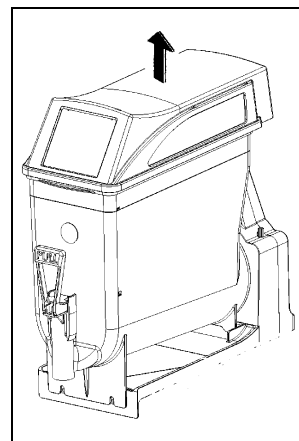

Fig. 17
- Remove the main cover (see fig.17).